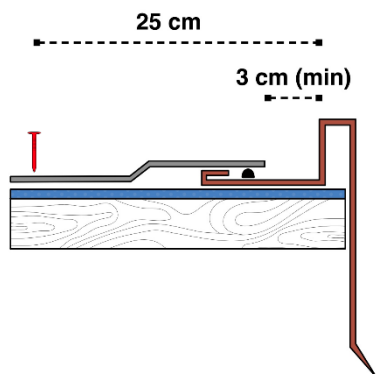

Fig. 4 - Lateral flashing detail
- Install the lateral flashing above the membrane/underlayer membrane applied to the roof. Apply a Bitustick bead to the external side of the lateral flashings. Proceed with the shingles installation, as described below, on the lateral flashing leaving a space of about 3cm between the end of the shingles and the edge of the lateral flashing - Fig. 4. Do not use nails less than 25 cm from the flashings.